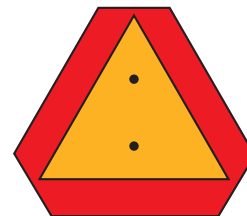

Figure 3-5: SMV Sign
10. Transport during daylight hours whenever possible. Always use flashing warning lights, except where such use is prohibited by law. Make sure lights, reflectors and SMV emblem are clearly visible and operating. Remove any obstructions such as dirt, mud, stalks or residue that restricts view before transporting. **See Figure 3-5.**